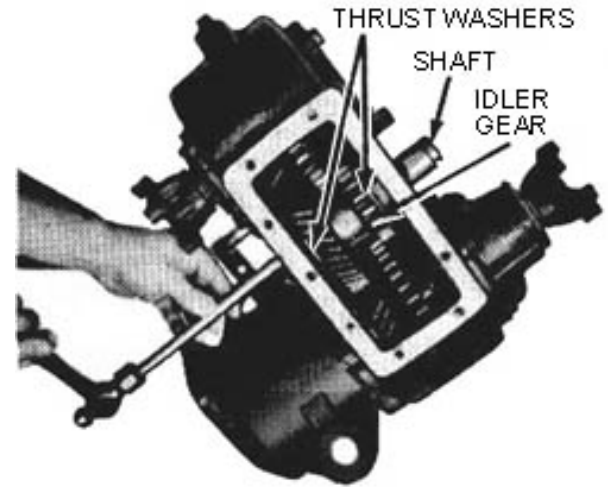

Figure 4 – Removing Idler Shaft
5. Using a hammer and soft drift, drive the idler shaft rearward and out of the case. Then, lift the thrust washers and idler gear from the case (Fig. 4). When removing the idler gear, do not lose any of the rollers.